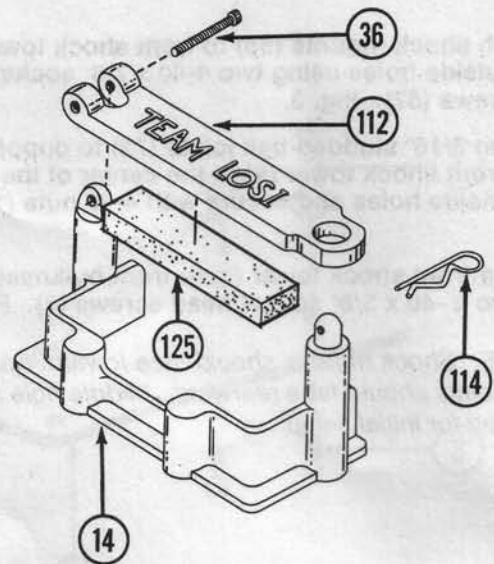

FIG. 5
11. Peel off backing from adhesive foam (125) and apply to the indentation on the bottom side of the battery box lid (112) . Fig. 5.
12. Align hinge pin holes in the battery box lid (112) with hinge pin hole in battery box (14) post. Fig. 5.
* NOTE: Hinge pin hole is the larger of the two holes in the battery box (14). Fig. 5.
13. Thread 4-40 x 1/2" socket head screw (36) into chamfered end of battery box lid (112) through battery box (14) and back through battery box lid (112). Fig. 5.
14. Secure lid (112) with body clip (114) inserted through chamfered end of hole in battery box (14) post . Fig. 5.